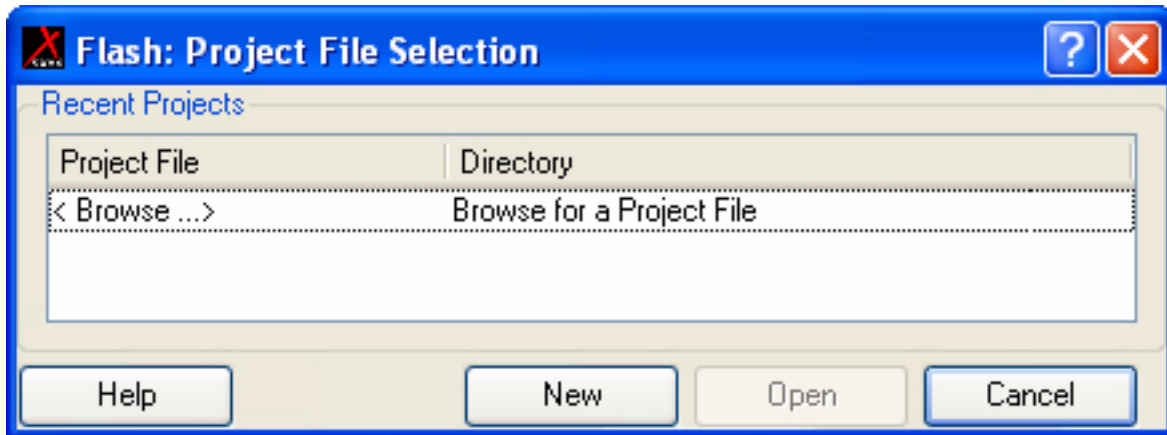
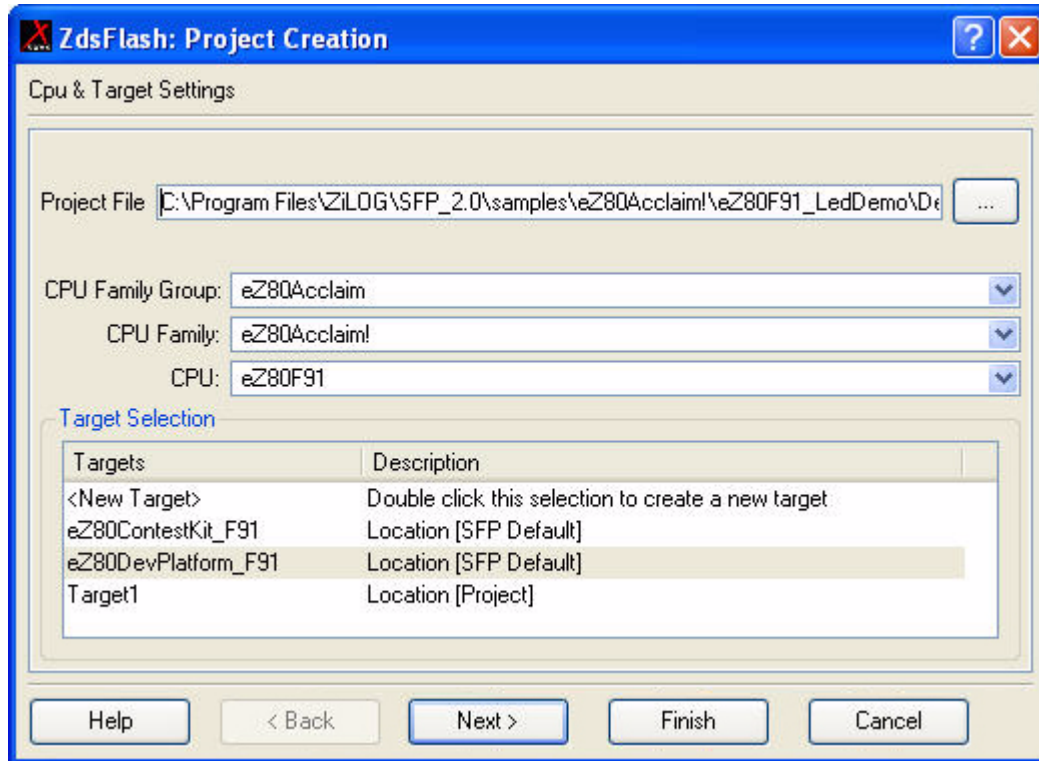
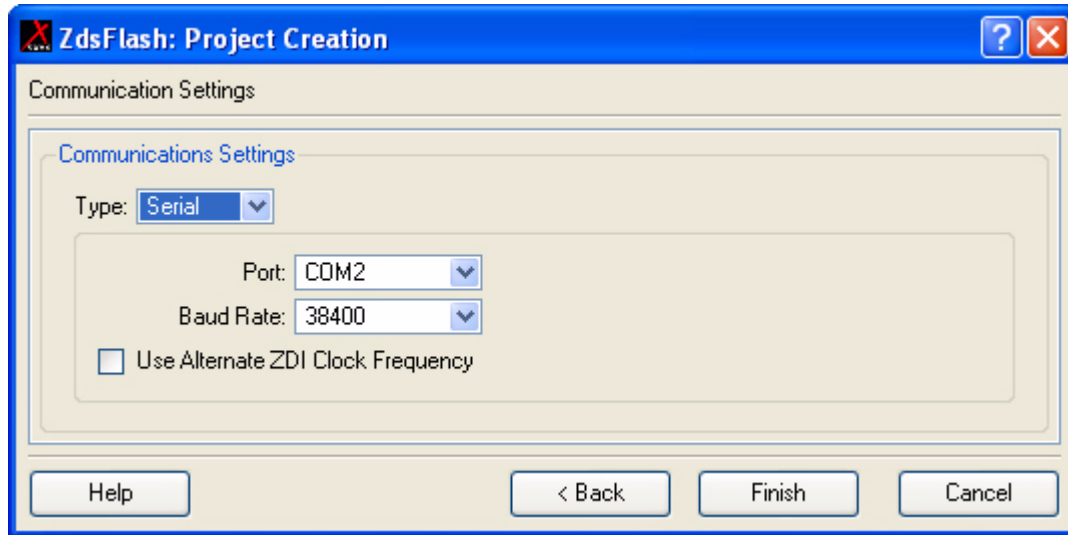

Figure 78. Project File Selection Window
Figure 79. Project Creation Window
Figure 81. Communication Settings Window
Once the SFP is installed, the **Project File Selection** window (see Figure 78) is displayed.
2. To create a new project click **New** in the **Project File Selection** window (see Figure 78). The **Project Creation** window is displayed (see Figure 79).
3. In the **Project Creation** window (see Figure 79), click the browse button  to locate the project file.
The **Project File** text box in the **Project Creation** window (see Figure 79) will display the path along with the file name.
7. In the **Project Creation** window (see Figure 79), select the CPU family group from the **CPU Family Group** drop-down list.
11. In the **Project Creation** window (see Figure 79), click **Finish** to complete the project creation or click **Next** to display the **Communication Settings** window (see Figure 81). The **Communication Settings** window displays the communication parameters for the project.
1. In the **Target Selection** section of the **Project Creation** window (see Figure 79), double-click <New Target>.
The **ZdsFlash:Project Creation** window (see Figure 79) reappears. The target you have created will be highlighted in the **Target Selection** list.
11. On the **Project Creation** window (see Figure 79), click **Finish** to complete the project creation.
- **Note:** Clicking the **Cancel** button in the **Project Creation** window (see Figure 79) will cancel the project creation. However the new target created will not be deleted and will be available for use later.
The **Project Creation** window (see Figure 79) reappears. The target you have created will be highlighted in the **Target Selection** list.
9. On the **Project Creation** window (see Figure 79), click **Finish** to complete project creation.
- **Note:** Project creation can be cancelled by clicking the **Cancel** button on the **Project Creation** window (see Figure 79). However the new target created will not be deleted and will be available for use at a later time.